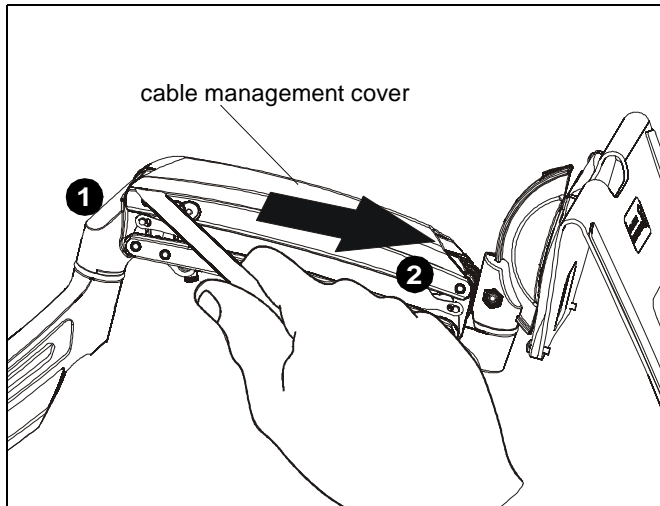
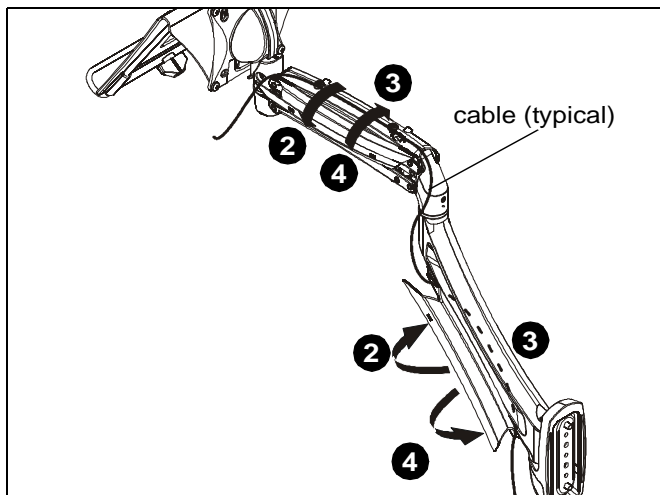

Figure 6
Figure 7
1. Use screwdriver to unhinge tab on either end of cable management cover on upper arm. (See Figure 6)
2. Slide screwdriver along edge of cover until remaining tabs are unhinged and cover is in the "open" position. (See Figure 6) and (See Figure 7)
3. Route cables through cable management channels. (See Figure 7)
4. Close cable management covers on monitor arm. (See Figure 7)